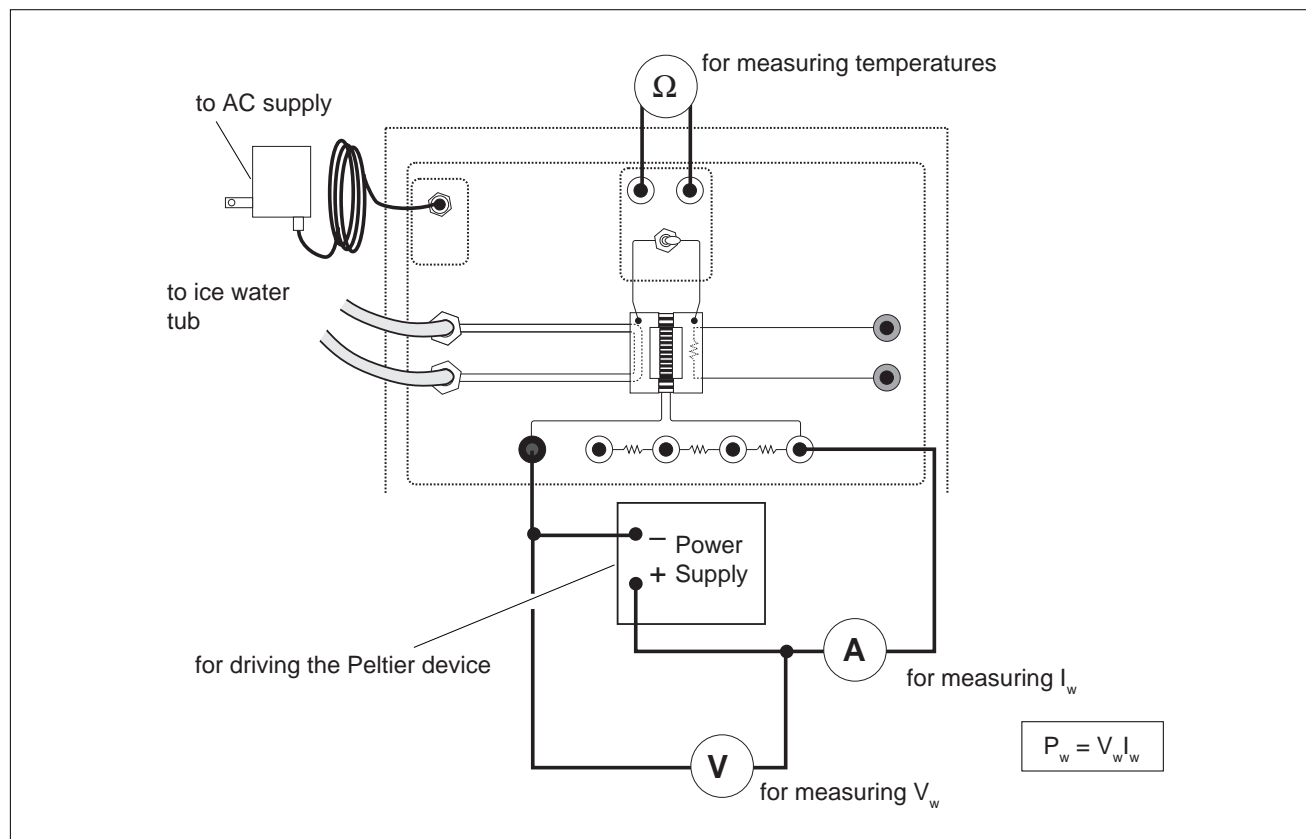

Figure 3.1 Heat Pump Mode
- ② Plug the 9V transformer into the wall socket and into the pump on the Thermal Efficiency Apparatus. You should now hear the pump running and water should be coming out of the rubber hose marked “out”.
- ③ Disconnect the power supply to the hot side. Connect the power supply directly across the Peltier device with no load resistance. See Figure 3.1
- ④ Connect an ammeter and a voltmeter to the power supply.